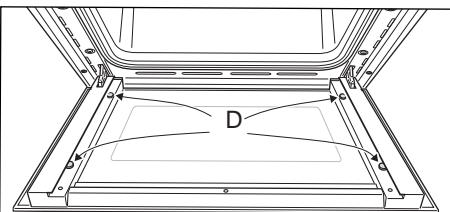

Fig. 7.16b
- Check that the four rubber pads are in place ("D" in fig. 7.16b).